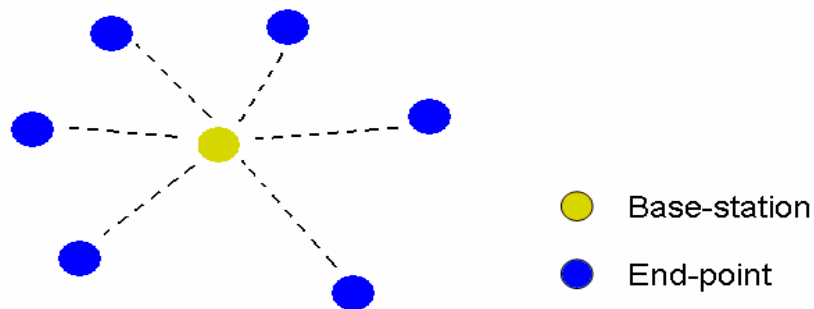

Figure 1
The network topology is a star configuration, as shown in Figure 1. One unit acts as a master unit, usually referred to as a Base Unit (BS), and all other units are termed End Points (EP). The Base Unit and End Points are identical in terms of hardware and software.